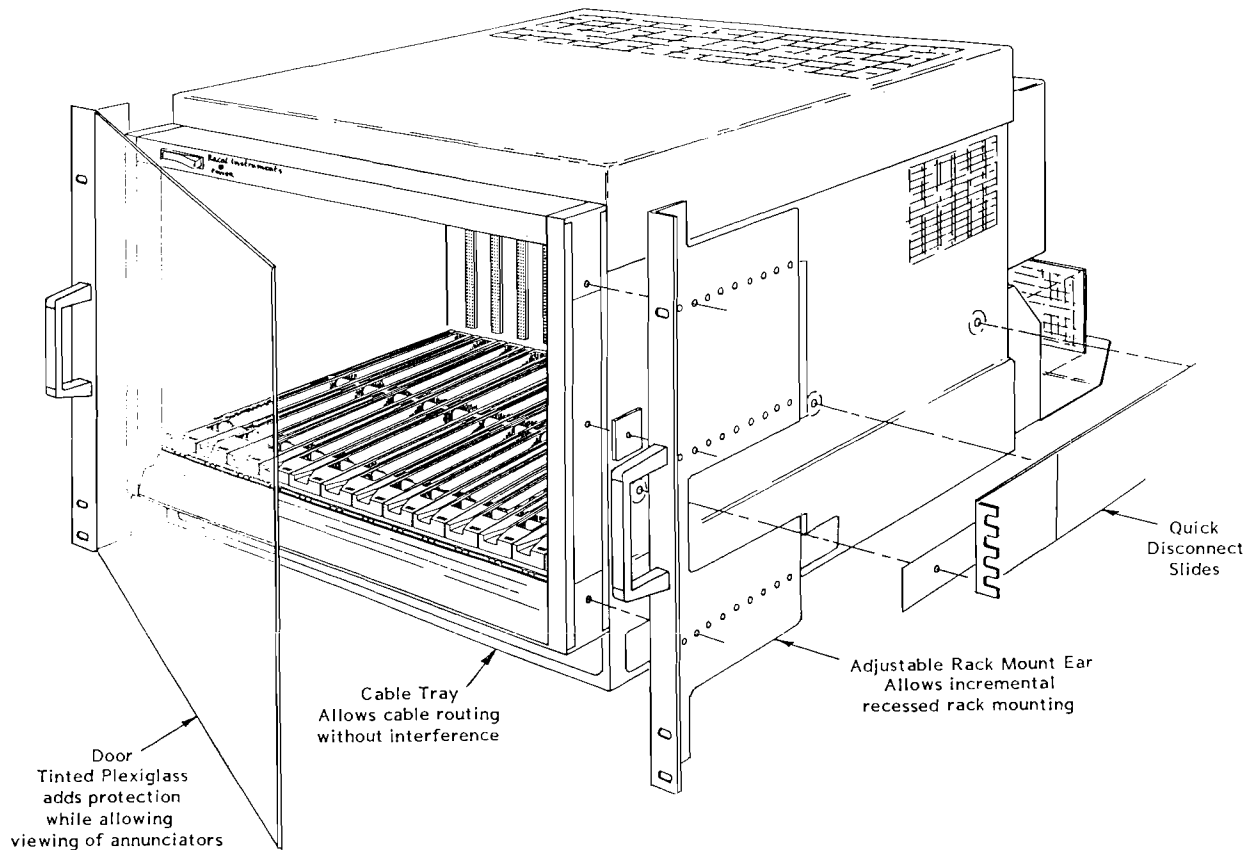

Figure 1-7 Rack Mount and Cable Tray Option Components
- **Variable Recess Rack Mounting.** The adjustable rack mount ear provides variable (0.625 inch increments) recess rack mounting capability. See **Figure 1-7**.